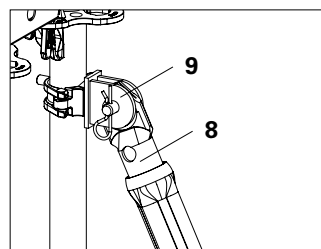
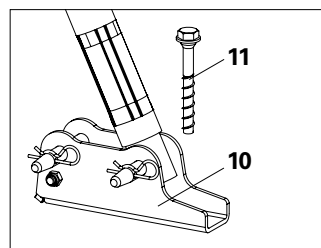

Fig. A3.01a
Fig. A3.01b
2. Fasten push-pull prop (8) with bolt and cotter pin. (Fig. A3.01a)
3. Fasten the base plate (10) to the foundation with the tie bolt (11).
4. Fix Push-Pull Prop to the base plate with bolts and cotter pins. (Fig. A3.01b)